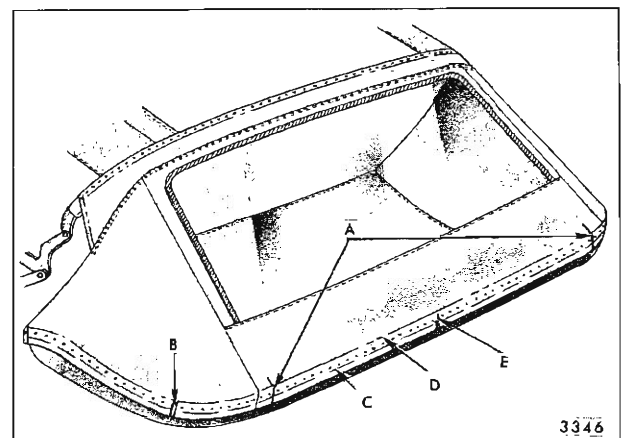

Fig. 13-53—Back Curtain Installation
- Transfer reference marks from removed back curtain to new one as follows: Place new back curtain on clean covered bench with inner surface down. Position removed back curtain correspondingly over new one. Carefully align upper window over lower one. While holding both curtains together securely, carefully lay out trim material of both curtains and transfer following reference marks along bottom: location of trimstick(s) (upper and lower trimstick edges, as well as ends); location of inner vertical edges of top cover; On "F" and "Z" styles, location of bolt holes. Allow 1/2 inch of back curtain material to extend below trimstick(s) (Fig. 13-53 and 13-54).